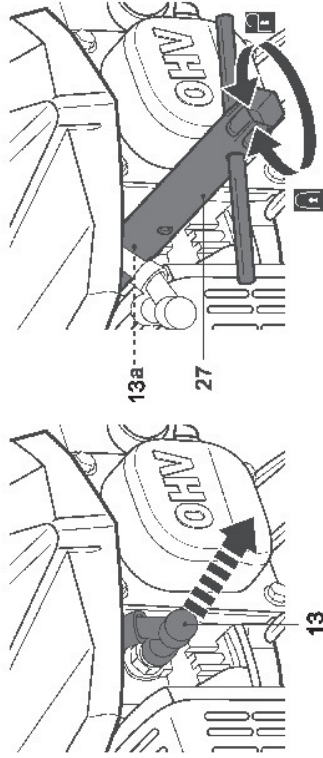

Fig. 18
1. Disconnect the spark plug connector (13).
2. Loosen the spark plug (13a) anti-clockwise using the multi tool (27) and remove it carefully (Fig. 18).